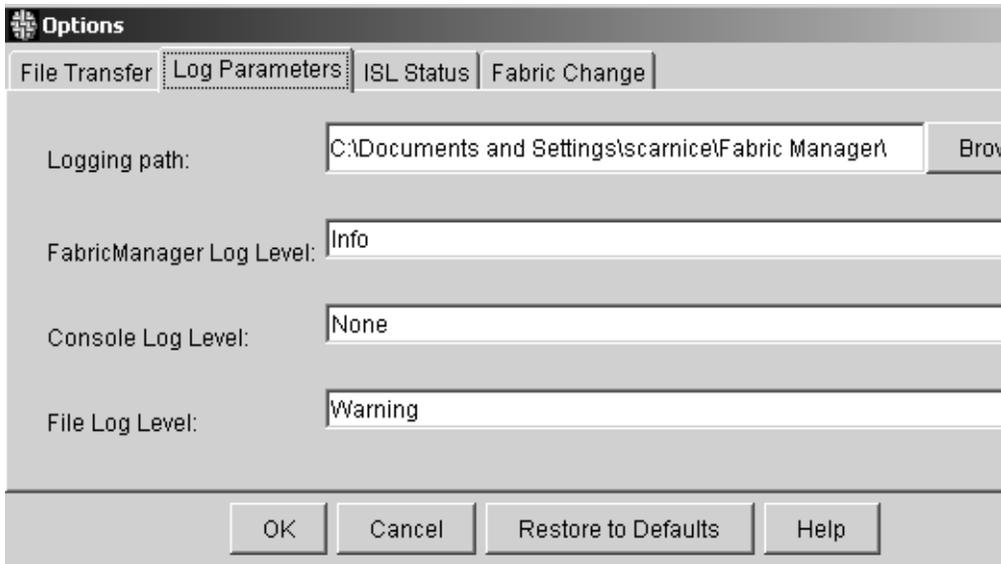

Figure 4–5: Log Parameters tab of the Options dialog box
2. Click **Log Parameters** tab. The **Log Parameters** tab displays, as shown in Figure 4–5.